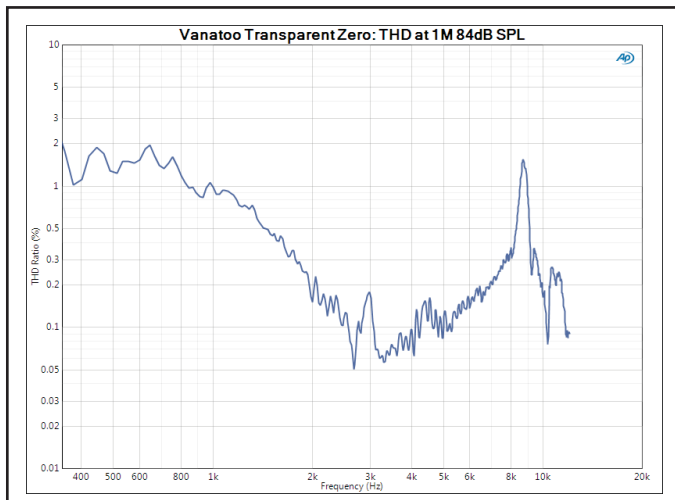
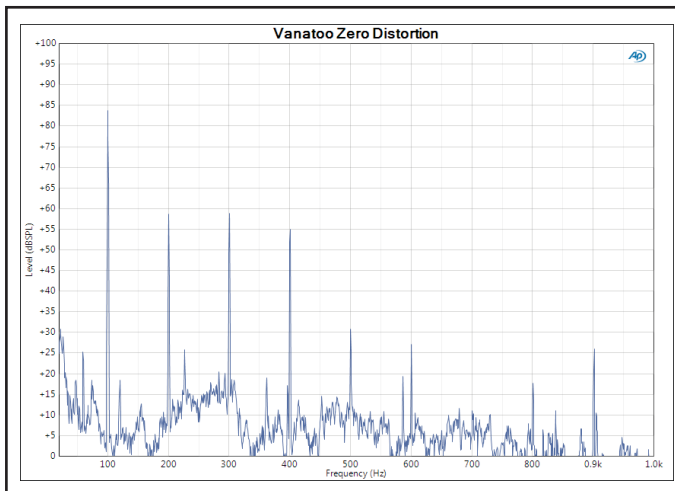
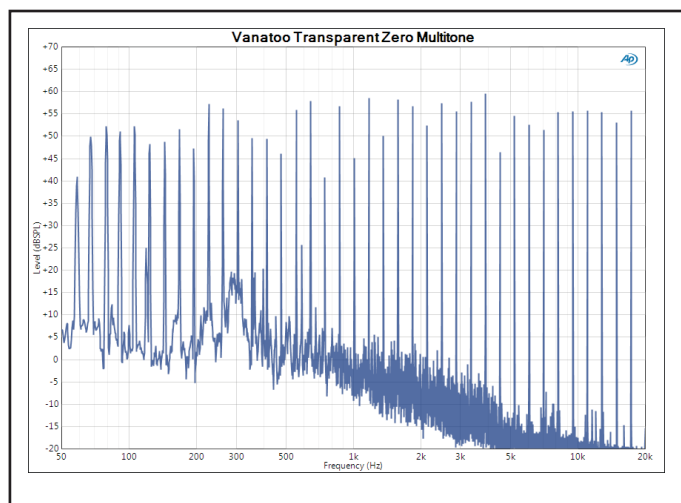

Figure 4: The distortion vs. frequency at 84 dB SPL and 1 m distance is moderately low.
Figure 5: The spectrum of a 100 Hz tone shows that the distortion is dominated by low-order (second and third harmonic) components.
Figure 7: A 42-tone spectrum is relatively clean but does show some anharmonic noise in the lower midrange. This is a very extreme test!
**Figure 4** shows total harmonic distortion (THD) vs. frequency at 84 dB SPL and 1 m distance. It's not exceptionally low, but it is dominated by second- and third-order components as indicated in the spectrum of a 100 Hz sine wave (see **Figure 5**). Note that in the THD graph there's a distortion peak at about 8.5 kHz, corresponding to the frequency response notch. This is one of those places where the low cost of the tweeter shows. There's also some small but noticeable anharmonic noise in the lower midrange.
Lately, I've also started running multitone tests on loudspeakers. **Figure 7** shows the results for the Transparent Zeros at 84 dB SPL and 1 m, on axis. The variation in tone height occurs because, unlike a standard frequency response, the measurement here includes room reflections. Interestingly, the anharmonic noise seen in the distortion spectrum of Figure 5 reappears here, and may be some of the reason I thought that the Transparent Zeros fell short on clarity compared to the much more expensive competition. As I collect more data like this from other speakers, we'll see if this measurement provides a way to objectively test for this perceived sonic quality.